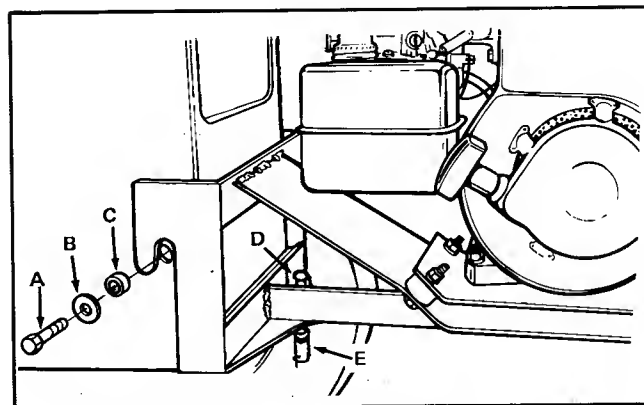

Figure 3. Attaching Engine Assembly
1. Remove the capscrew, washer, lockwasher, and nut already on the rear support of the tractor (see figure 3). The lockwasher and nut will be used again.
2. Replace the capcrew and washer just removed with the longer 1-1/4 inch capscrew and larger washer (items A and B, figure 3) provided. Do this by placing the washer and one of the spacers (item C) provided on the capscrew and inserting capscrew back into support. Install the original lockwasher and nut on capscrew from inside the support and tighten in place.